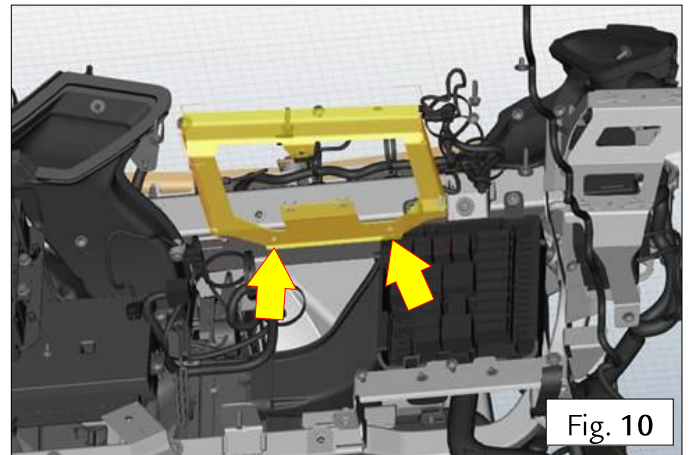

Fig. 10
- 2.8. Undo the two indicated screws and remove the airbag reinforcement bracket – Fig. 10.